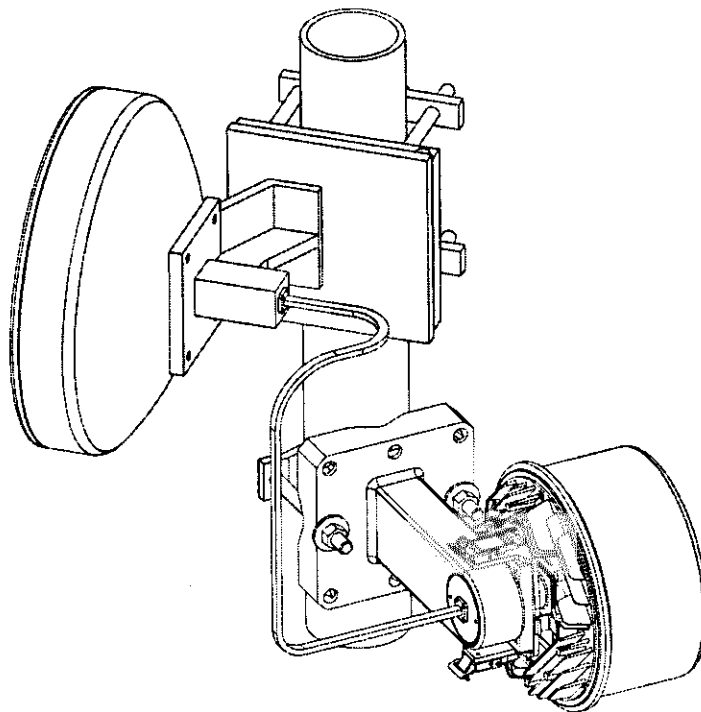

Figure 3-3. Remote Mounted ODU with Antenna
The ODU remote mount, shown in Figure 3-3, secures the ODU with latches and spring-loaded retention clips. The mount is designed for attachment to a pole of diameter between 48 mm and 115 mm (1.9 and 4.5 inches) using a V-bolt. The ODU is always attached to the remote mount in vertical polarization mode, i.e. with ODU polarization indicator positioned to point up and down.
- Step 3. Loosely assemble the V-bolt to the remote ODU mount plate using 2-each of the $\frac{1}{2}$ -13 hex nuts and $\frac{1}{2}$ " flat washers supplied in the Remote Mount installation kit (items 2 and 3). See Figure 3-3 for reference.